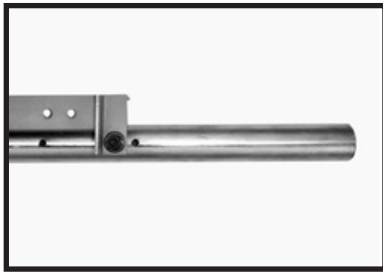

Fig. 15
2. Locate the rail (Fig.15), two 1" hex head screws, 2 flat washers, 2 special washers, and 2 hex nuts. Make sure that the rail/bracket is assembled as shown in Fig. 15, and that the short end of the rail is on the right of the bracket. (If the rail has been previously attached with the long end to the right, remove the bracket, turn the rail 180 degrees, and re-attach the bracket.)